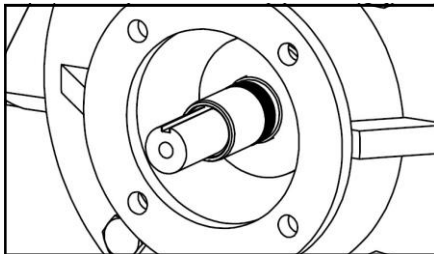

Figure 9
1. Slide the shaft sleeve onto the motor shaft with the coated end toward the motor, Figure 9.